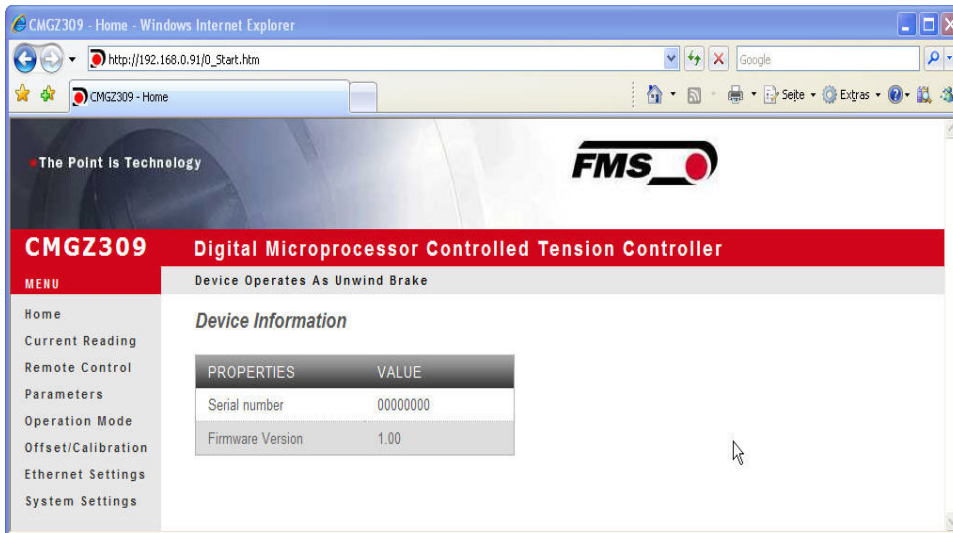

Fig. 38: Homepage with device information
Before the parameterization of the CMGZ309 it must be certain that the CMGZ309 uses an IP address in a static block (not assigned by the server). Once the CMGZ309 was integrated in the network you can address the device with his assigned address e.g. with <http://192.168.000.090> . After establishing the link, the screen Fig. 38 (Homepage) will open up.
4. The screen **Fig. 38** will open up. Continue then with the procedure described in **13.1** "Parametrization in a Network via a Web Browser"